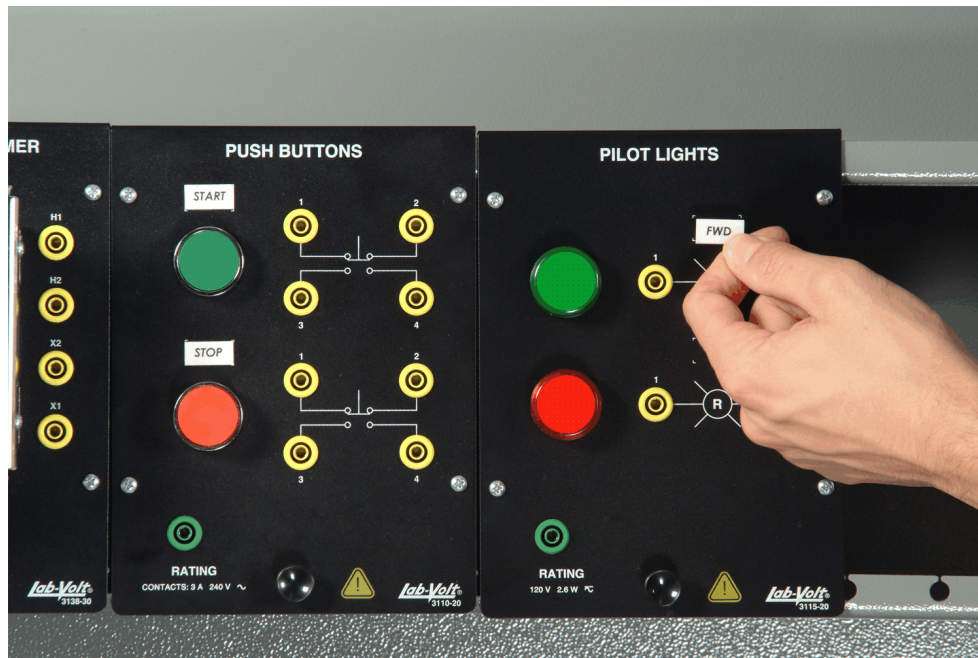

Figure D-5. Module identification.
- 1. Once the setup is completed, identify all buttons, pilot lights, switches, etc, in accordance with the circuit schematic diagram. Place the magnetic labels on the module faceplates as shown in Figure D-5.